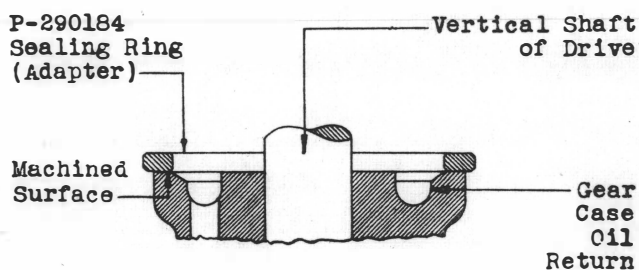
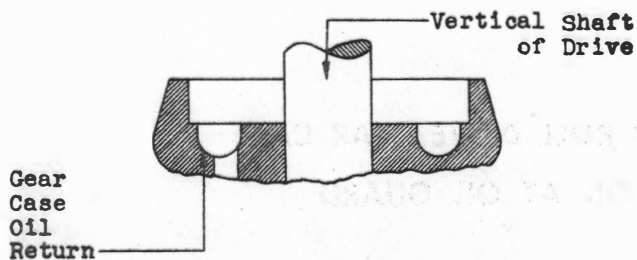

Fig. 1 - Gear Case With Shallow Oil Return
Fig. 2 - Gear Case With Deep Oil Return
1.03 These procedures are applicable to drives from which the oil is drained due to a capillary action of the eccentric coupling guard and oil guard. The drives so affected are those on which the boss around the hole in the gear case oil return through which the vertical shaft of the drive protrudes, is the same height as the outside diameter of the gear case as shown in Fig. 1. Gear cases with deep oil return as shown in Fig. 2 do not require this modification.